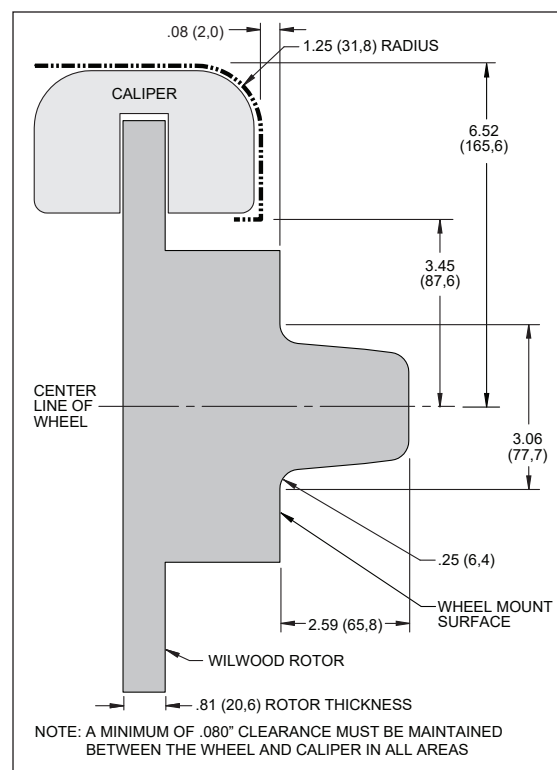

Figure 2. Wheel Clearance Diagram
- Review the Wheel Clearance Diagram (Figure 2, page 3) to verify that there is adequate clearance with the wheels you will be using with the installation.
- Verify wheel clearance utilizing Figure 2.
- Verify the new hub stud pattern in this kit matches the lug pattern of the vehicles wheels. CDP hubs have a 5 x 4.50" and 5 x 4.00" pattern. The 5 x 4.00" pattern does not guarantee fitment with all 5 x 4.00" wheels, either OEM or aftermarket. It is important that the center hole clearance be 3.10" or larger to clear hub snout in the kit, Figure 2.
- WARNING:** The wheel contact surfaces must seat completely on the face of the hub. If any contact surfaces overhang the outside diameter of the hub face, a 6.60" diameter x .20" thick steel spacer (item 23, Wilwood P/N 300-11961) MUST be used between the wheel and the hub.